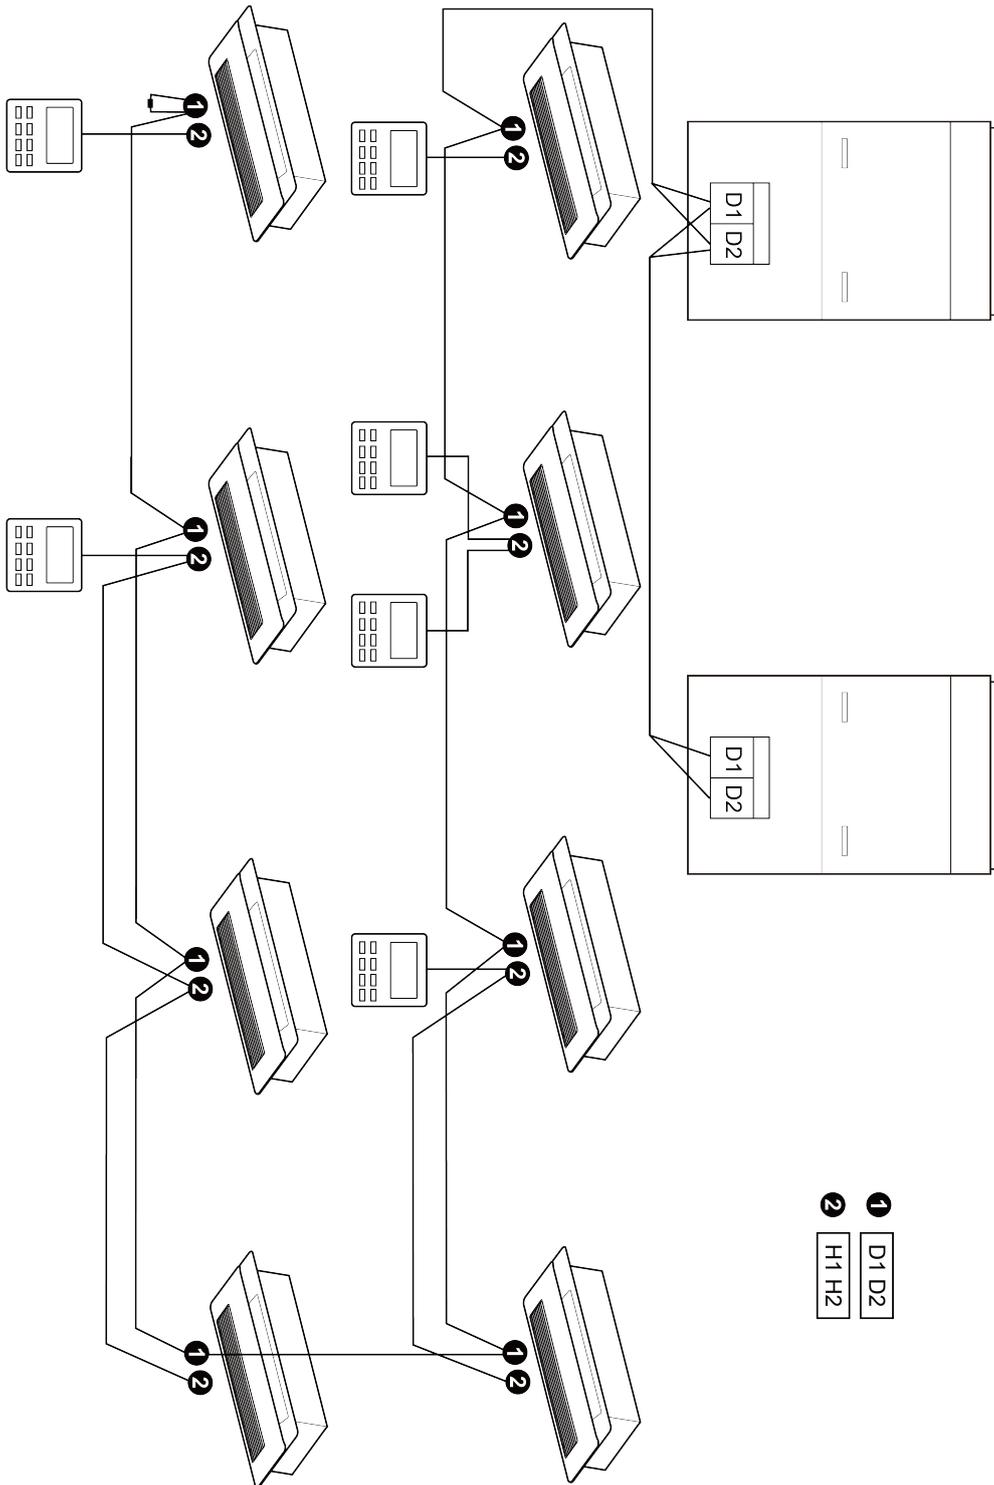

Fig.5.5
- (1) Communication wire of indoor unit and outdoor unit (or indoor unit) is connected to D1, D2.
- (2) Wired controller is connected to H1, H2.
- (3) One indoor unit can connect two wired controllers that must be set as master one and slave one.
- (4) One wired controller can control 16 indoor units in maximum at the same time. (As shown in Fig.5.5)